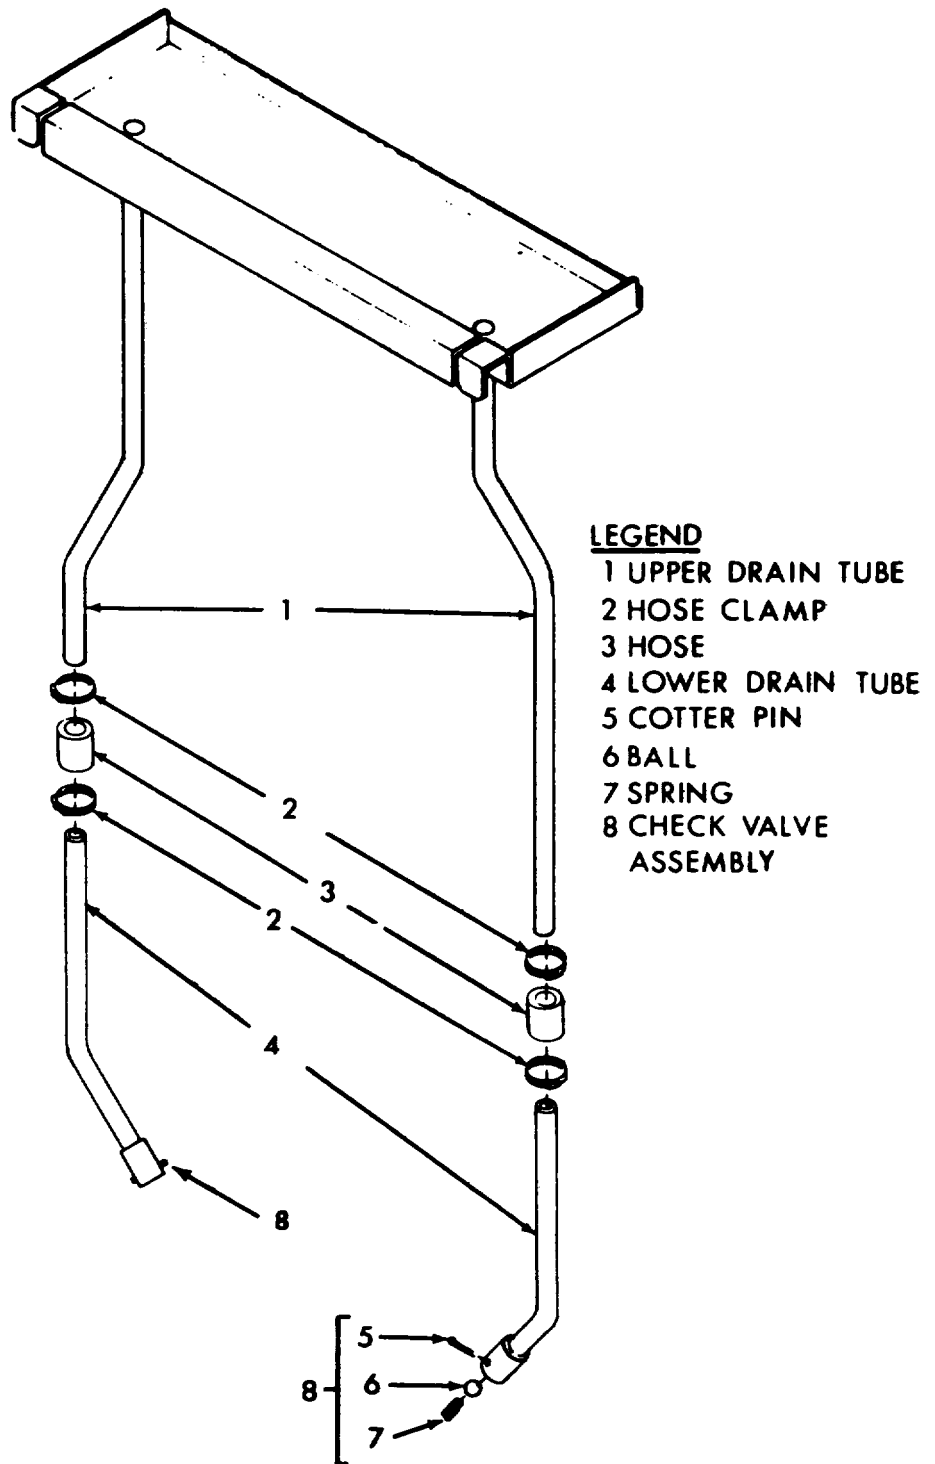

Figure 4-9. Condensate Drain
#### 4.23. Condensate Drainage System (See figure 4-9).
- (1) Remove 18 screws and washers from the four edges of the fabric cover, and remove the fabric cover.
- (2) Remove 15 screws and packing washers from the top surface of the top panel, and five screws through the rear flange. Remove the top panel.
- (3) Both the evaporator discharge and intake grilles are removed by turning six cam-lock studs in their frames counter-clockwise to unlock them. Remove the grilles.
- (4) Remove the mist eliminator by pulling it straight up.
- (5) Remove the air filter by removing two screws from the retaining strip on the right-hand edge of the filter. Pull the right-hand edge of the filter outward and to the right to remove it.
- (6) Remove the lower panel by unscrewing the two panel fastener screws in the top edge, and pulling the panel upward and out.
*d. Disassembly* Disassemble the drain tube assembly in the following manner. (See figure 4-9).
(1) Loosen the two hose clamps (2) on the side to be disassembled. Slide them downward, off the hose.
(2) Bend the two retaining clips far enough to pull the tube away from the casing.
(3) Twist and pull the tube downward to remove it from the hose. If hose remains attached to the lower tube, remove from the air conditioner and twist or cut the hose from the tube.
(4) Place a container below the end of the upper drain tube (1) and repeat the water flow-test to make sure that the obstruction is not in the upper tube. If it is, remove it with a flexible wire with a small hook on the upper end.
(5) If the obstruction is in the lower drain tube, straighten the ends of the cotterpin, hold one hand over the lower end of the check valve assembly to prevent loss of the spring (7), and withdraw the cotterpin (5). Remove the ball (6), and push a flexible wire upward through the tube to dislodge the obstruction. Flush the tube thoroughly with hot running water.